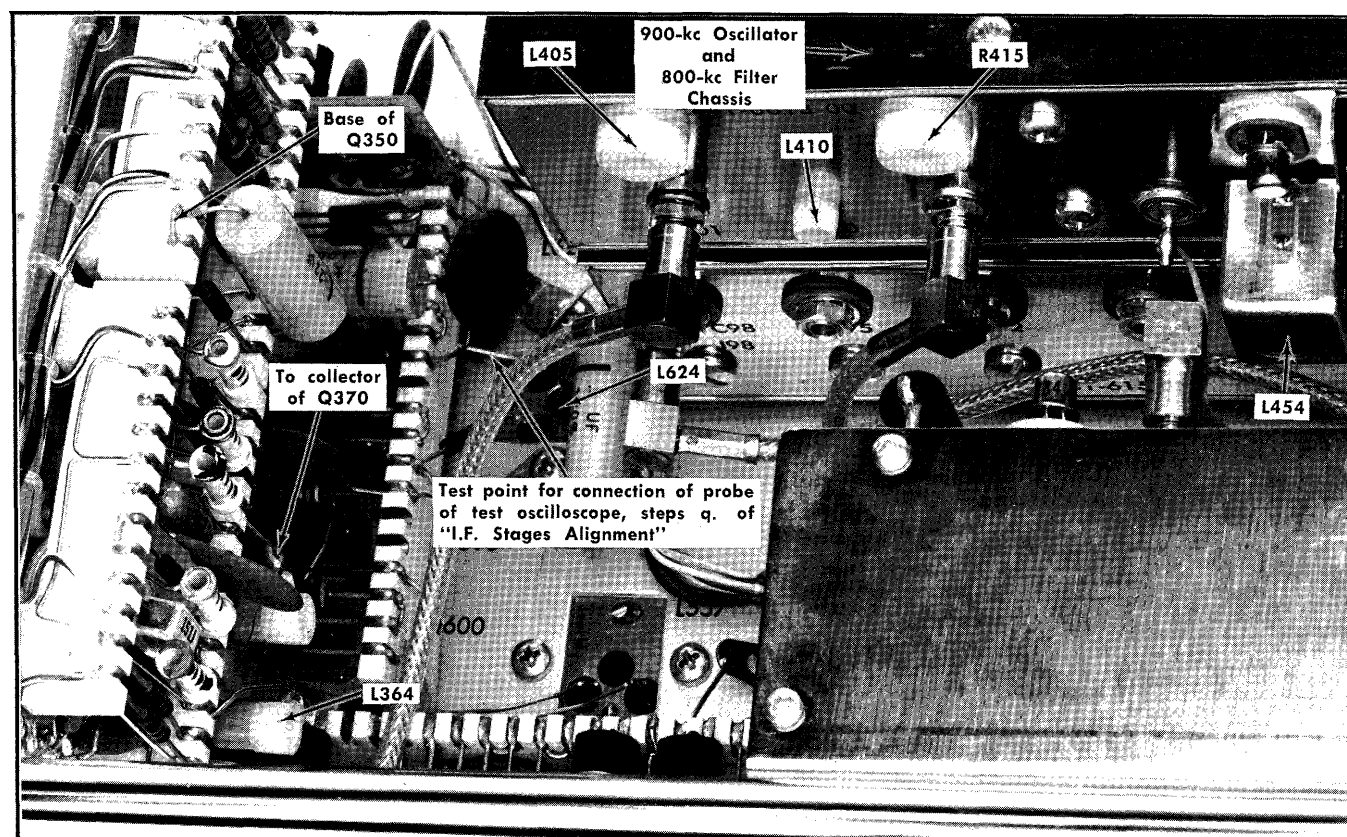

Fig. 4-13. Location of adjustments for steps k through r.
p. Connect the probe of the test oscilloscope to the test point shown in Fig. 4-13.